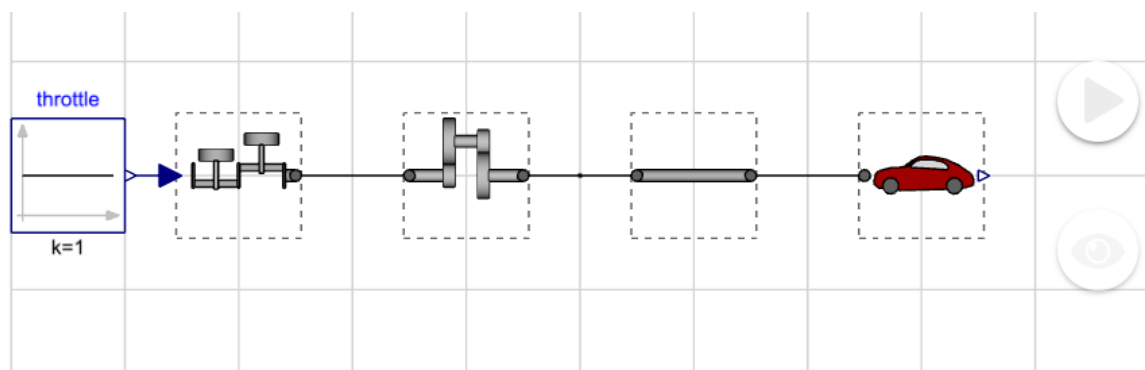

Figure 12 Changing class for all components and adding input block
4. Repeat for all the other sub-models as well, add a constant input for full *throttle* (=1.0). You should now have something like Figure 12.